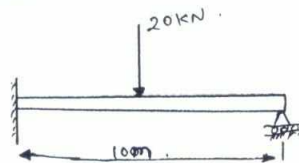

Fig. Q7(b)
b. A uniform C – S beam is fixed at one end and supported by a roller at the other end. A concentrated load 20 kN is applied at the mid length of beam as shown in Fig. Q7(b). Determine the deflection under load. (14 Marks)